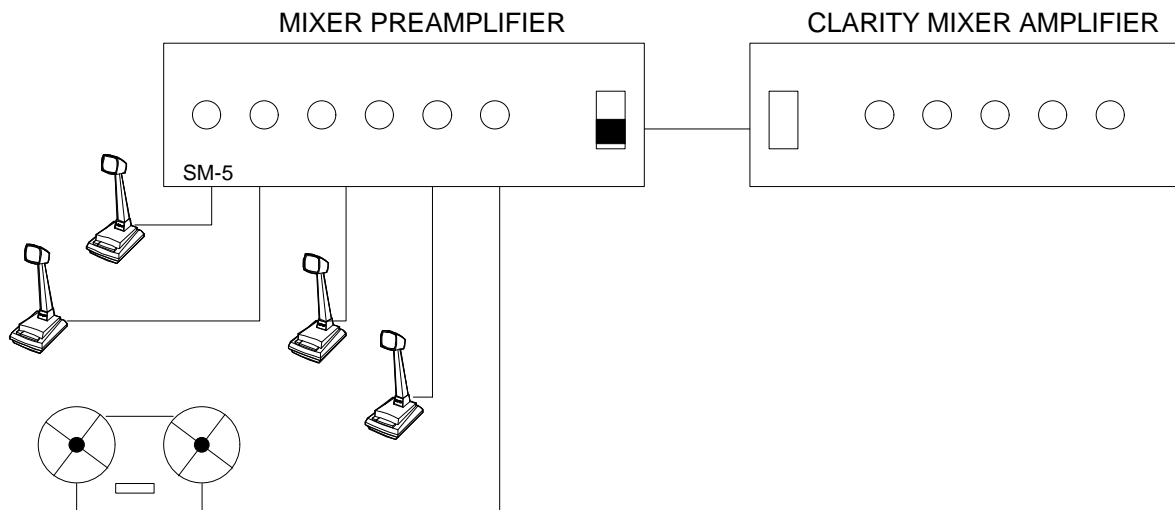

FIGURE 1 - TYPICAL INSTALLATION BLOCK DIAGRAM
- Clarity Paging Systems. Refer to Figure 1 for a block diagram of a typical installation.